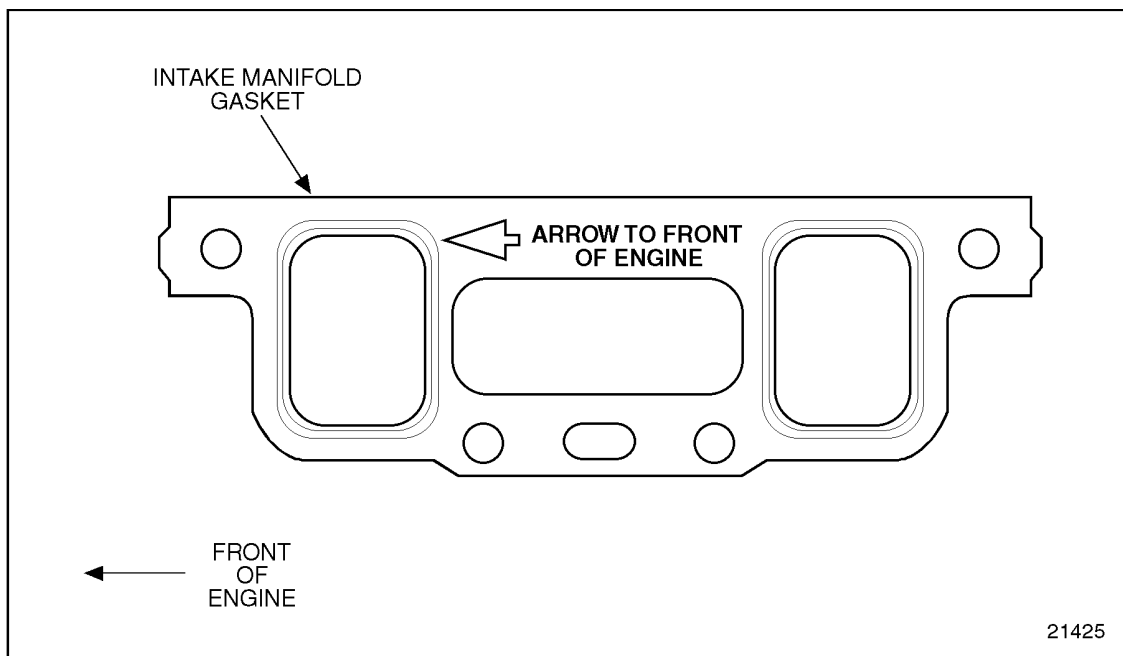

Figure 6-8 Intake Manifold Gasket Orientation
1. Install two new manifold gaskets to the mating surfaces of the intake manifold with the arrow on the gasket pointing to the front of the engine. See Figure 6-8.